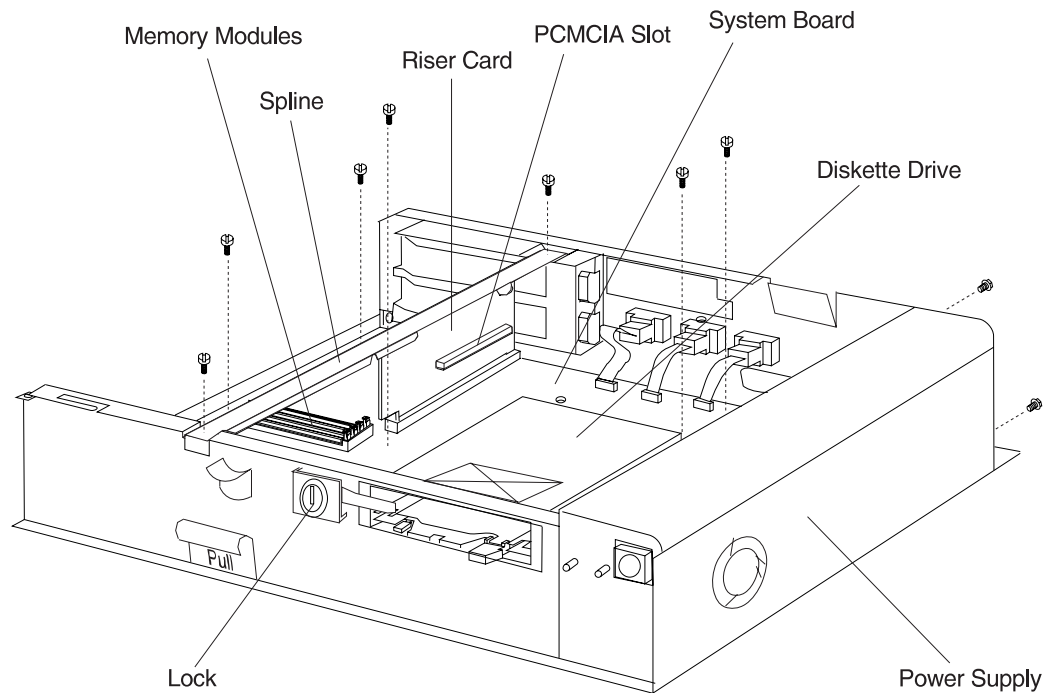

Figure 2-11. Removing the Power Supply
- 3 Remove the two screws at the rear of the 4694 that attach the power supply to the chassis. See Figure 2-11.
4 Slide the power supply toward the front. See Figure 2-11. until it stops, then lift it from the chassis.
- 3 Remove the two screws that attach the spline and lift it off the chassis. See Figure 2-11 on page 2-19.